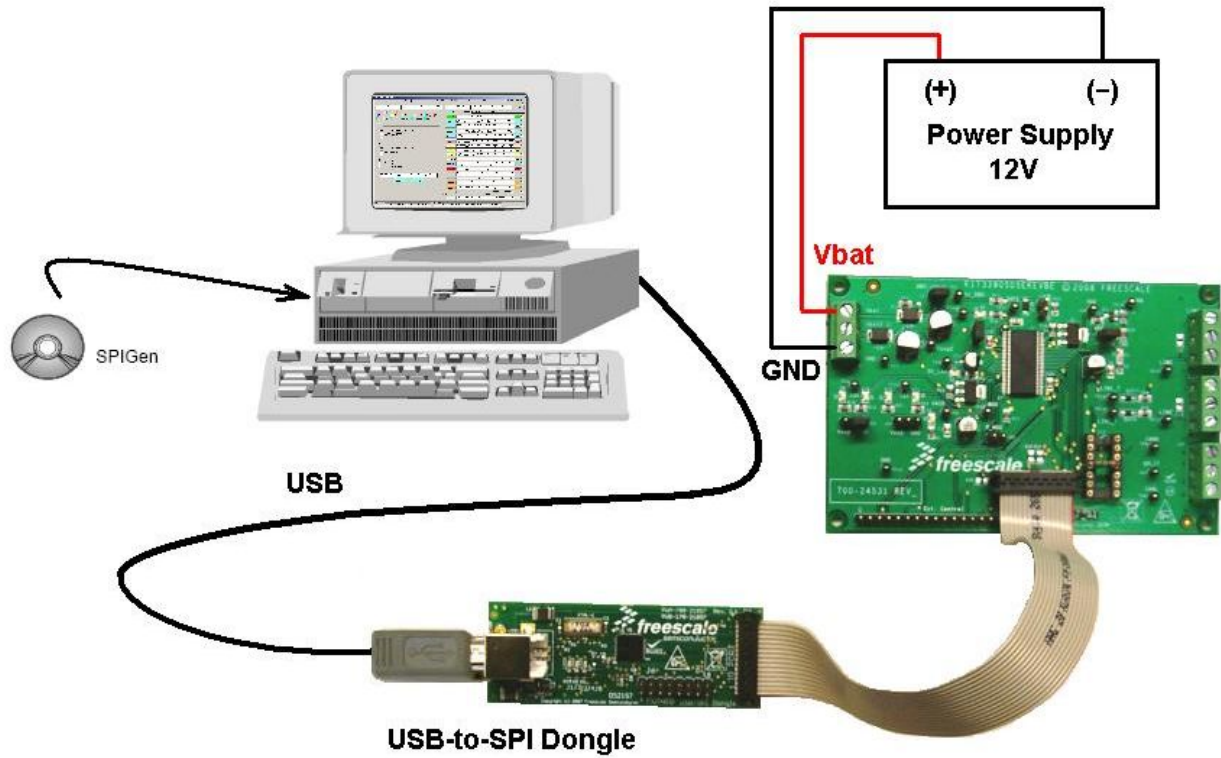

Figure 2. EVB Setup Configuration Diagram
2. Connect power supply to the VBAT and GND terminals on the EVB and build the setup as shown on Figure 2.